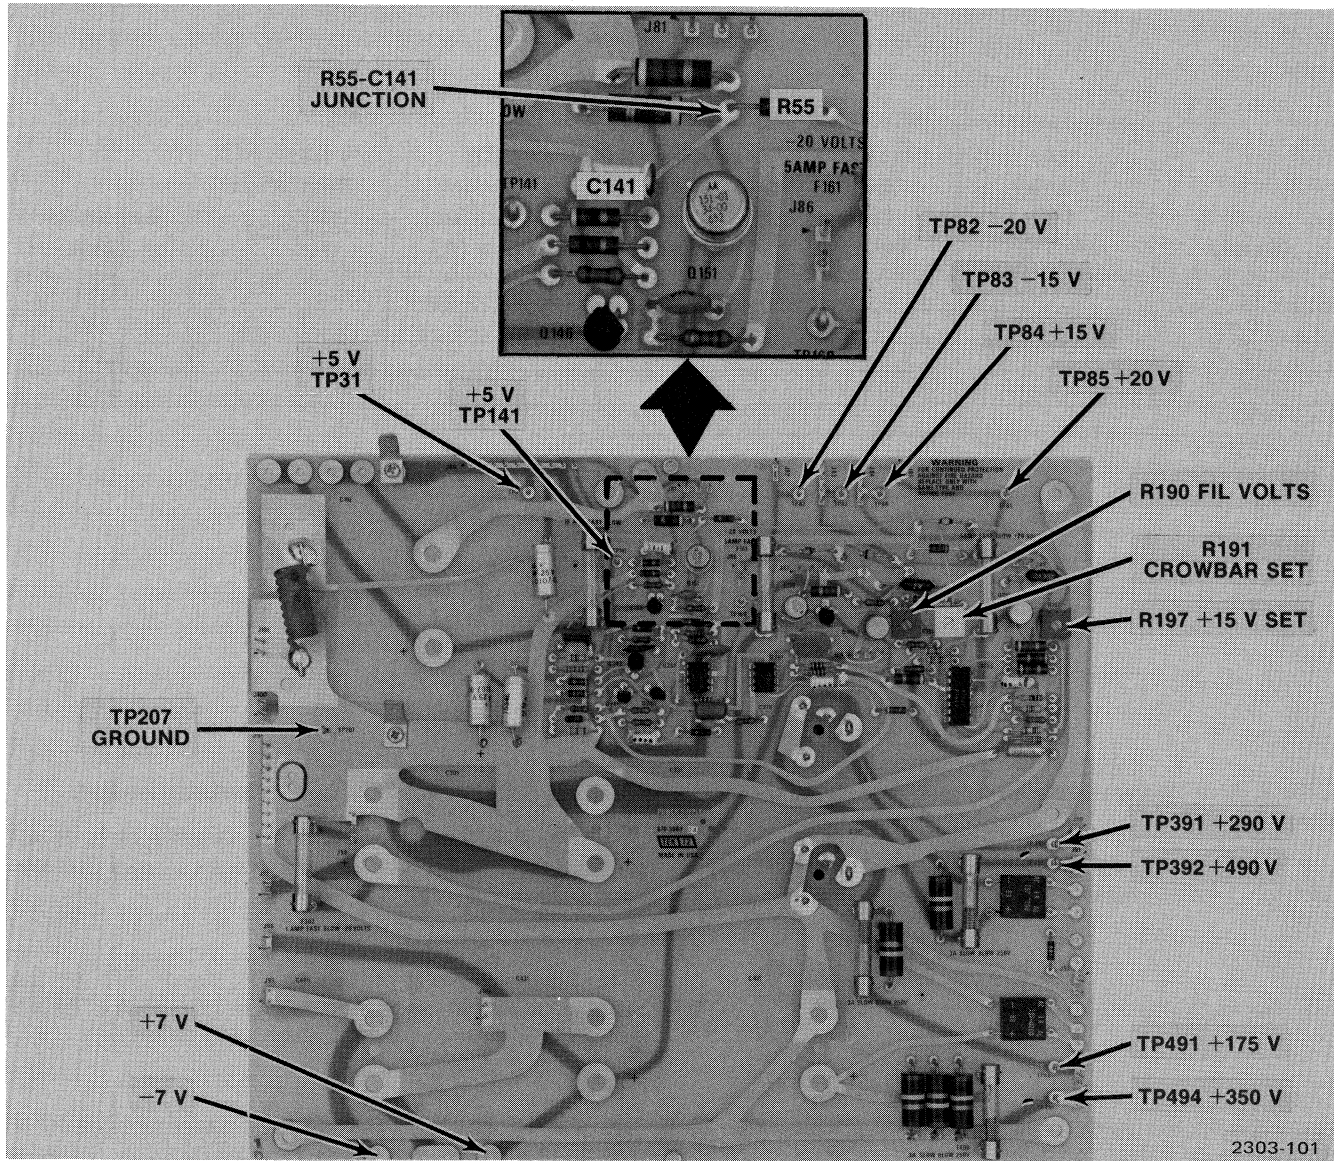

Fig. 4-11. Low-Voltage Power Supply test and adjustment locations.
*All voltage measurements in the power supply circuits are to be made with respect to TP207. Test point and component locations can be found by referring to Fig. 4-11.*
c. Adjust R190 on the Power Supply circuits for a voltage reading of 26.8 V (see Fig. 4-11).